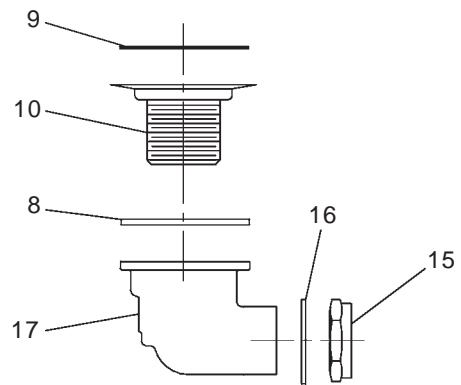

FIG. 13
6. Install waste tube assembly. Align threaded portion of drain tube assembly with drain hole in basin. Place rubber gasket between drain assembly and basin. Screw in drain plug from above and tighten securely. Snap strainer plate into drain plug. (See Fig. 13)